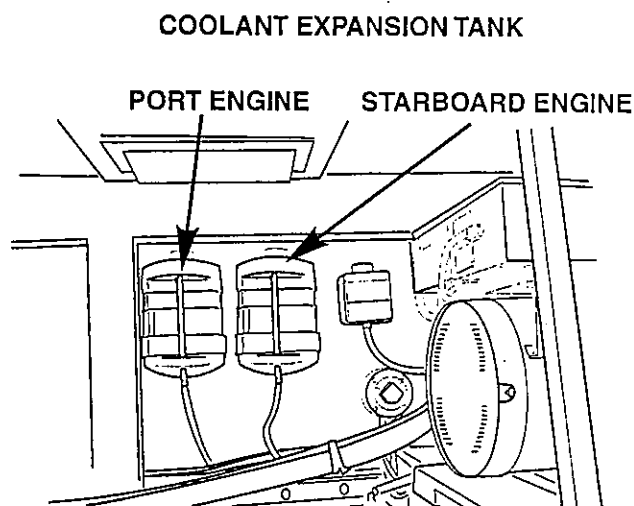

Figure 3-4 Checking Coolant Level
5. See Figure 3-4. Check that the level in the coolant expansion tank is at the proper level. If coolant system needs filling, refer to Section 5, Maintenance for information on coolant.